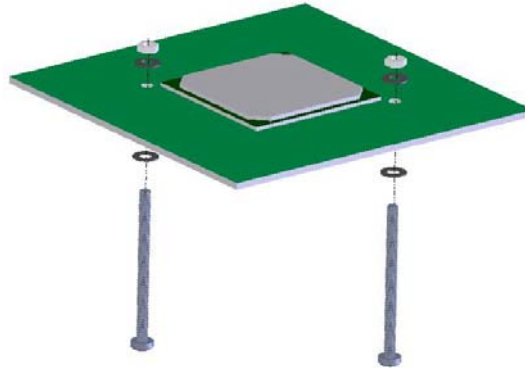

Figure 6
- ❑ Follow Figure 6 below to install the retention posts: install two 4-40 x 1.25" Philips screws with fiber washers on both sides of the motherboard, and secure them with the provided 4-40 mini-nuts.